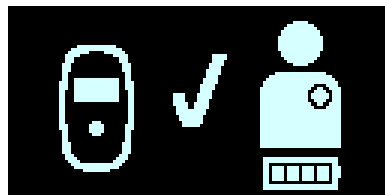

Figure 53: IPG Charging Successfully Completed Screen
8. When the battery of the OPTIMIZER INTEGRA CCM-D IPG is fully charged, the Guardio Charger will emit three short beeping tones and display the IPG Charging Successfully Completed screen (see **Figure 53**). The Guardio Charger will then shut off automatically.